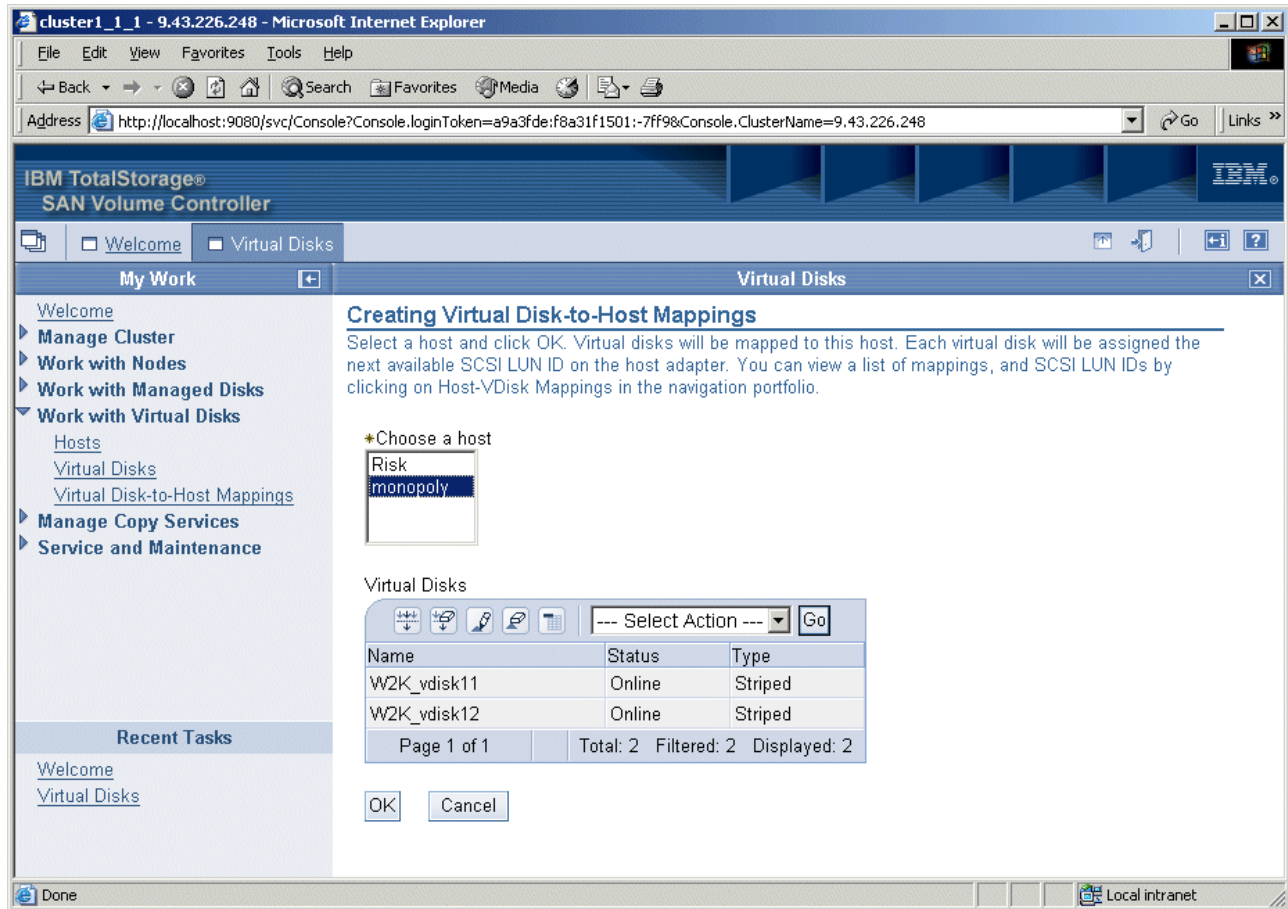

Figure 6-39 Creating vDisk-to-Host Mappings panel
4. On the Creating a vDisk-to-Host Mappings panel (Figure 6-39), select the target host. Optionally assign a specific SCSI LUN ID, and click **OK**.